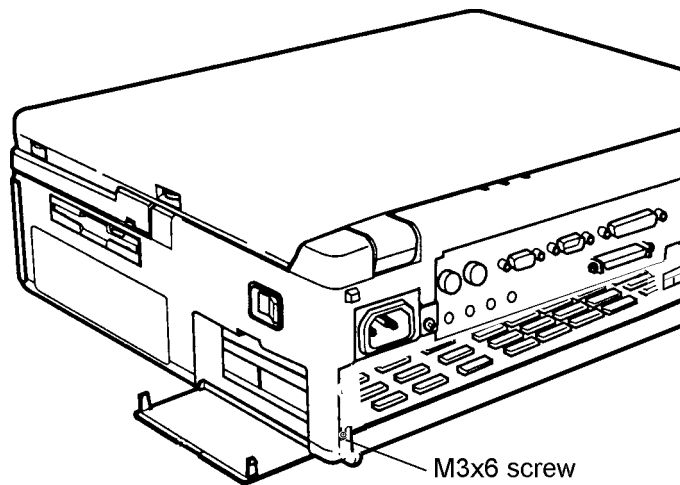

Figure 4-13 Removing an Expansion Card
To remove an expansion card from the computer, follow the steps below and refer to Figure 4-13.
To install an expansion card in the computer, follow the steps below and refer to Figures 4-13 through 4-16.
6. Secure the expansion card with an **M3x6 screw** (Figure 4-13).